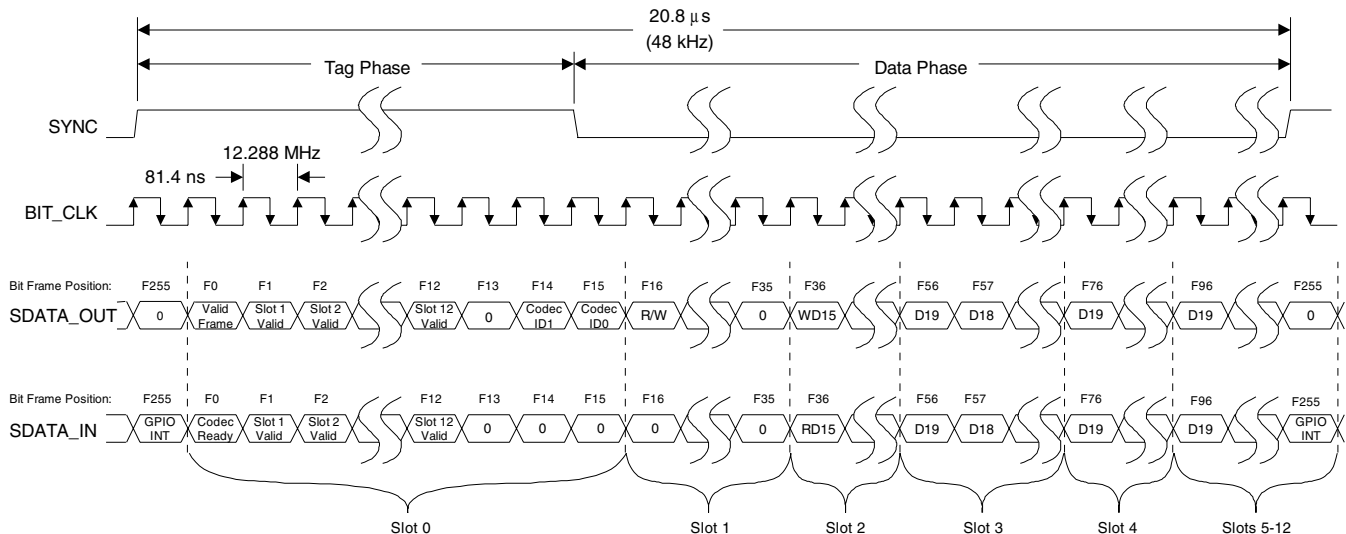

Figure 9. AC-link Input and Output Framing
The controller synchronizes the beginning of a frame with the assertion of the SYNC signal. Figure 9 shows the position of each bit location
In the serial data output frame, data is passed on the *SDATA_OUT* pin to the CS4202 from the AC '97 controller. Figure 9 illustrates the serial port timing.
- R/W** Read/Write. When this bit is 'set', a read of the AC '97 register specified by the register index bits will occur in the AC '97 2.x audio codec. When the bit is 'cleared', a write will occur. For any read or write access to occur, the Valid Frame bit (F0) must be 'set' and the Codec ID[1:0] bits (F[14:15]) must match the Codec ID of the AC '97 2.x audio codec being accessed. Additionally, for a primary codec, the Slot 1 Valid bit (F1) must be 'set' for a read access and both the Slot 1 Valid bit (F1) and the Slot 2 Valid bit (F2) must be 'set' for a write access. For a secondary codec, both the Slot 1 Valid bit (F1) and the Slot 2 Valid bit (F2) must be 'cleared' for read and write accesses. See Figure 9 for bit frame positions.
In the serial data input frame, data is passed on the SDATA_IN pin from the CS4202 to the AC '97 controller. The data format for the input frame is very similar to the output frame. Figure 9 on page 15 illustrates the serial port timing.